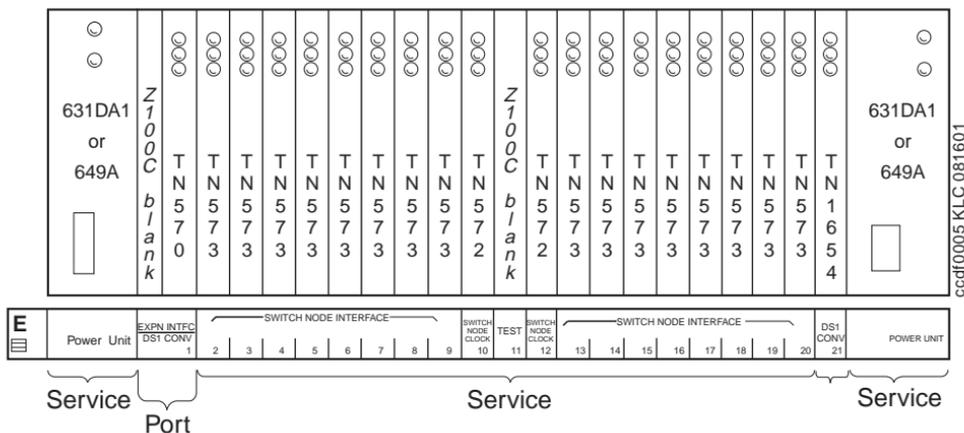

Figure 40. Switch Node Carrier (SN) (r model) J58890SA (Front)
The Switch Node Carrier (SN) (J58890SA) can contain one or two switch node clocks, up to 16 Switch Node Interface (SNI) circuit packs, 1 or 2 DS1 converter circuit packs, one EI circuit pack, and 2 AC or DC power units. See Figure 40 for a representative example.